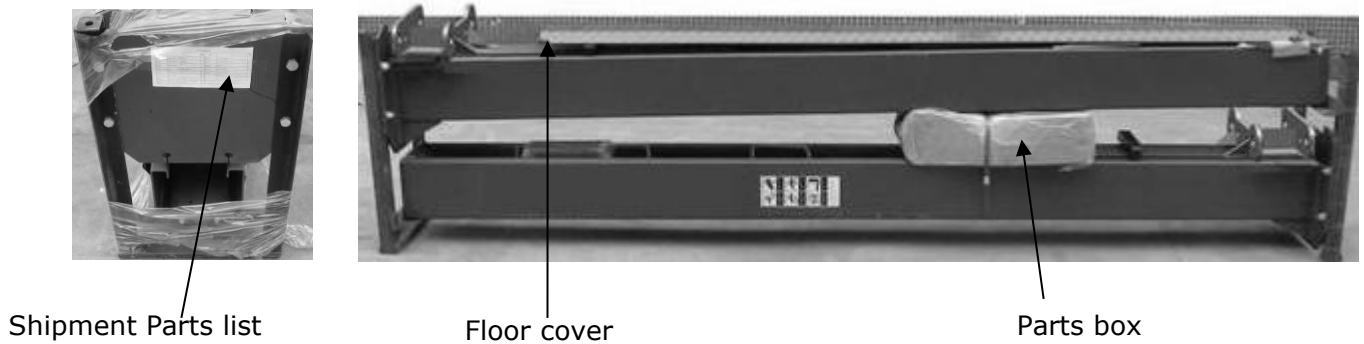

Fig. 8
2. Move the lift aside with fork lift or hoist, and open the outer packing carefully, take off the parts from upper and inside the column, take out the parts box, check the parts according to the shipment parts list(See Fig. 8).